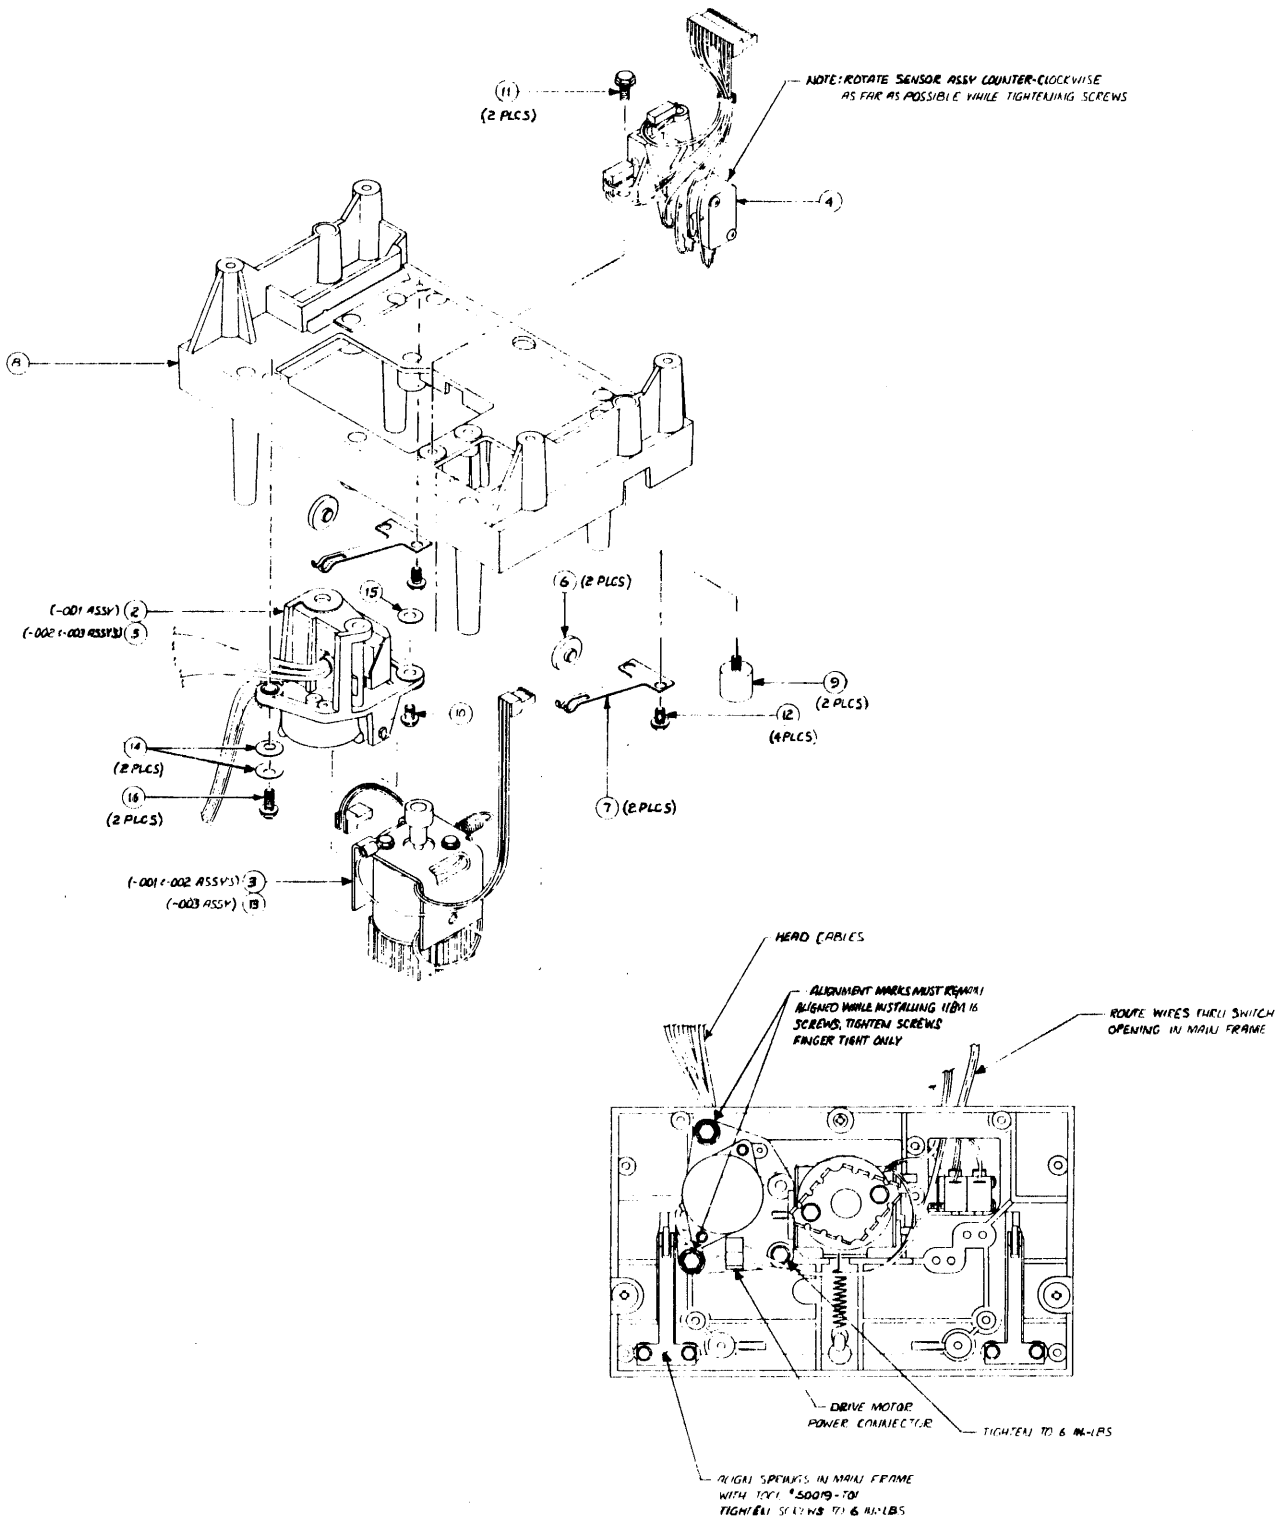

Figure 7-2. Motor (Without Fan) Removal Diagram
**7.2.3 Drive Motor Without Fan Assembly (Figure 7-2)**
### 7.2.5 Sensor Block And Switch Replacement (Figure 7-2)